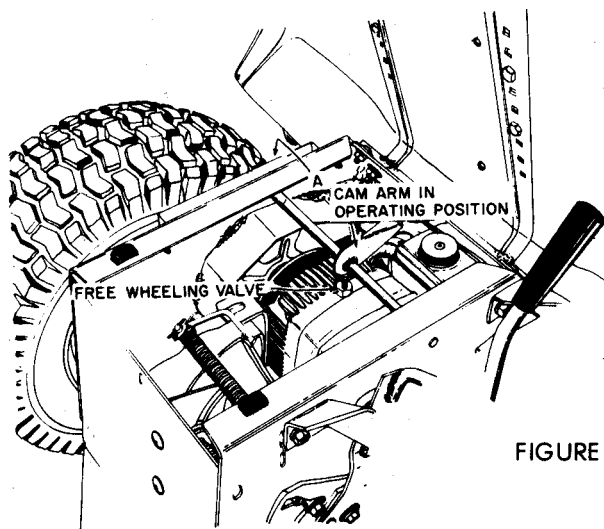

FIGURE 22
2. Remove nut A, Figure 22 from the left end of the cam assembly shaft and slide the cam assembly to the right until the cam arm is free of the valve actuating rod.
8. Replace cam assembly, Figure 22. Tighten nuts A so the cam arm intersects the center of the valve actuating rod and the shaft has $\frac{1}{32}$ " end play.